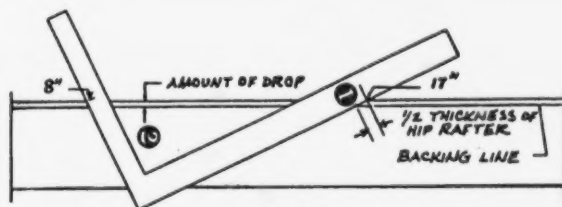

FIG. 10
3. Draw a line through the point measured parallel to the top edge, Fig. 10